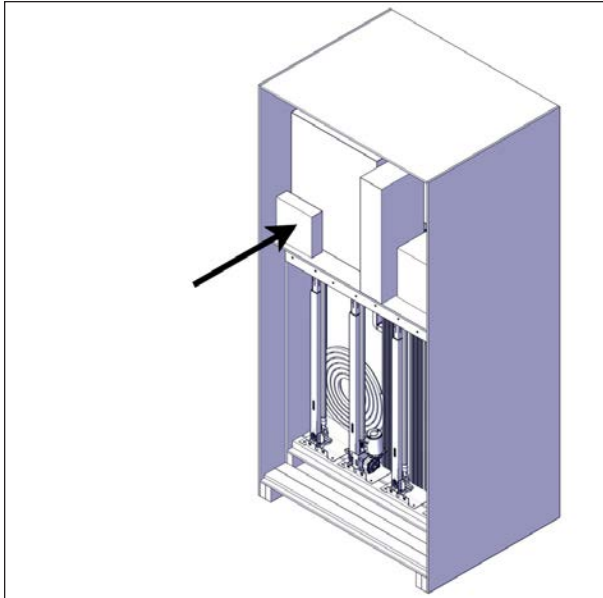

FIGURE 20: BOX REMOVAL
9. Remove all boxes above the jack box, and keep in a safe location, see Figure 20.